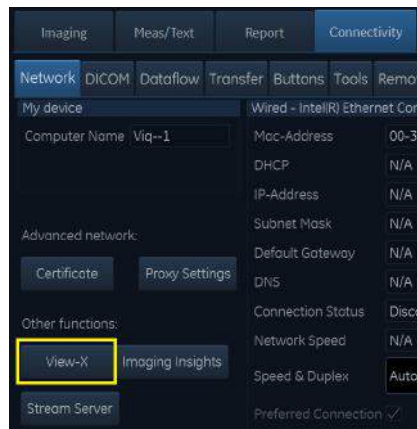

Figure 5-13. Video Streaming under network configuration.
3. Select **View-X** (Figure 5-13).